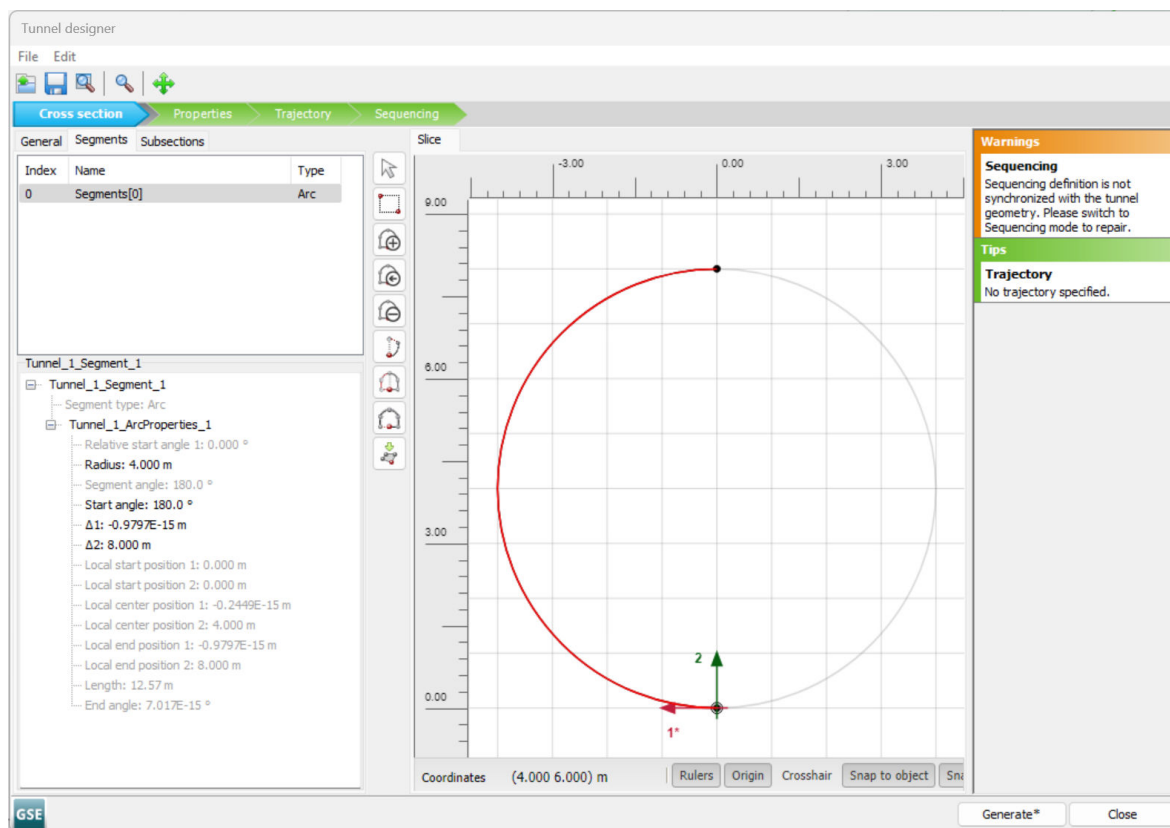

Figure 63: Definition Tunnel Radius
8. By having the created segment selected, set the *Radius* to 4 m (see Figure 63 (on page 90)). This is the inner radius of the tunnel.